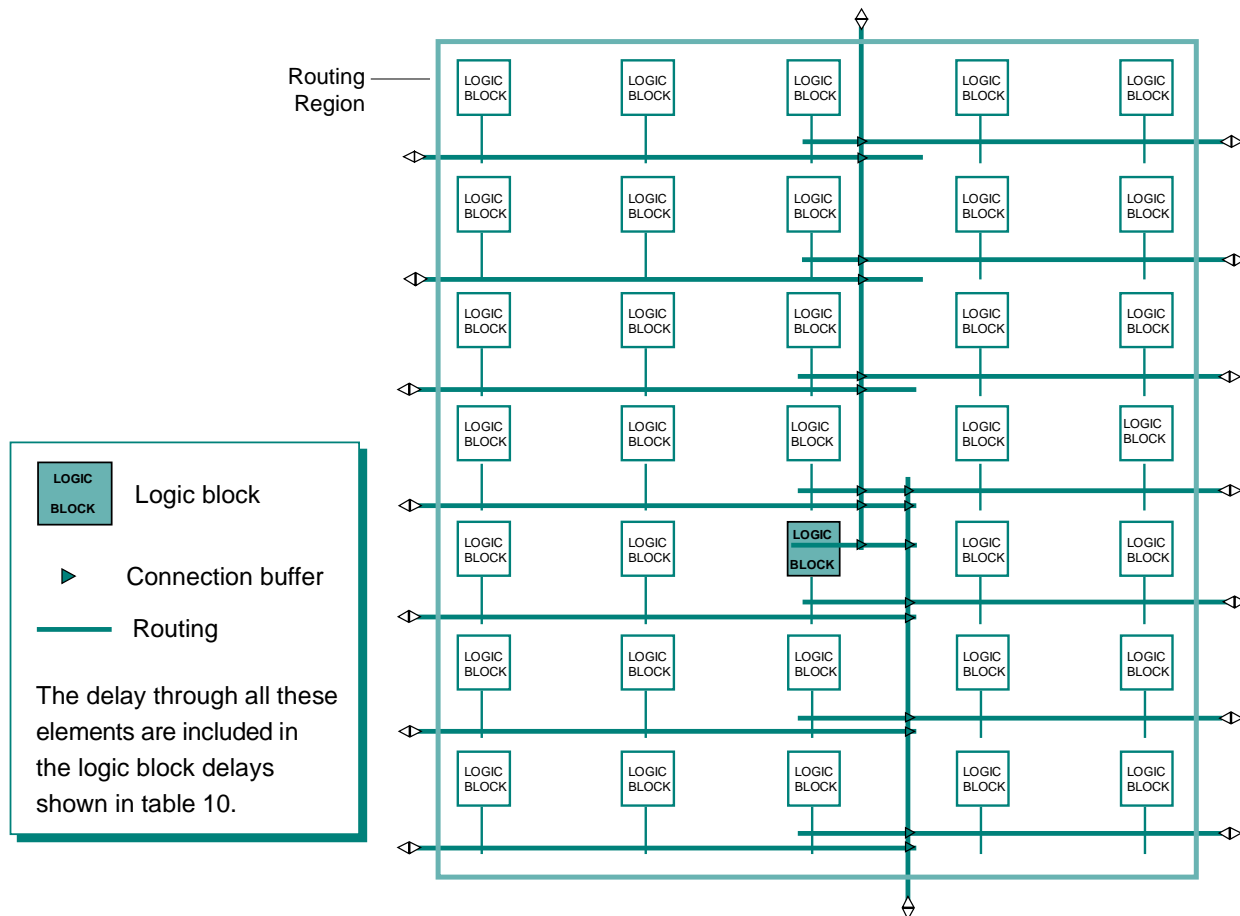

Figure 15: Connection and Routing Delays.
- (1) Combinatorial and clock to out delays include all routing and connection buffer delays up to the next logic block input or active repeater as shown in figure 15.
- (2) The AND/OR combinatorial delay, XOR combinatorial delay, adder/multiplier delay and 4:1 multiplexer delay include the complete path through the logic block from inputs I1 through I16 through outputs O1 or O2, to the next logic block or active repeater.
- (3) The AND/OR to flip flop, XOR to flip flop, 4:1 multiplexer data to flip flop, 4:1 multiplexer select to flip flop and adder/multiplier to flip flop delay includes all elements from inputs I1 through I16 to the D/T input of either flip flop.
- (4) Designs may be mapped to paths with different delays.
- (5) Delays are rounded to nearest tenth of a ns.